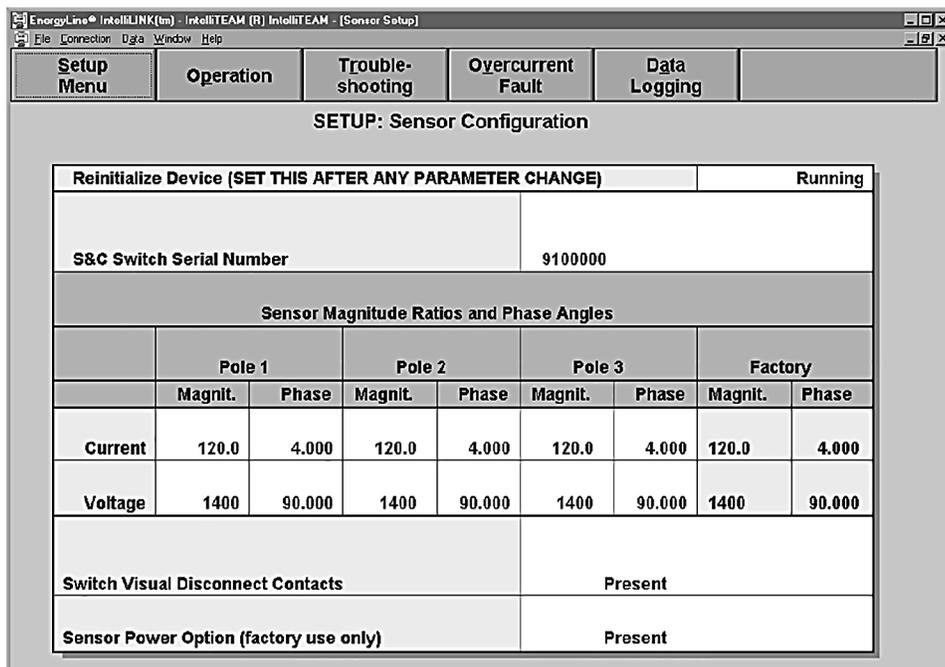

Figure 6. The *Setup>Sensor Configuration* screen for a 5801 control.
**STEP 4.** At the *Setup Menu* screen, click on the **Sensor Configuration** button to display the *Setup>Sensor Configuration* screen. See Figure 6. Enter the correct values for this switch control.
The screen shown in Figure 6 allows entry of calibration data (correction factors) for S&C Scada-Mate® Switching Systems, PME or PMH switchgear, or Vista Underground Distribution Switchgear sensors. The switch control uses these correction factors to produce voltage and current accuracy within specification for the S&C sensors.